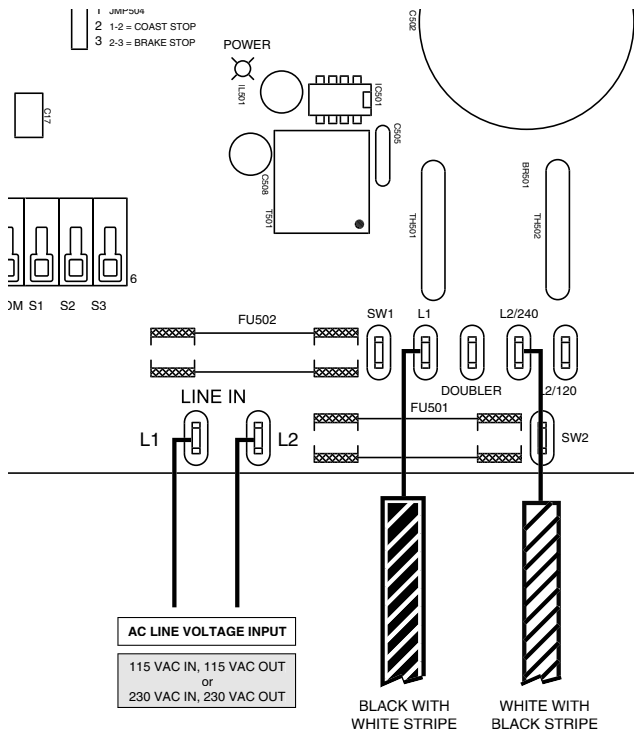

Figure 2. AC Line Connection, No Voltage Doubler Used (115 VAC In, 115 VAC Out or 230 VAC In, 230 VAC Out)
1. Connect AC line voltage to LINE IN L1 and L2 terminals as shown in Figure 2 (page 8).